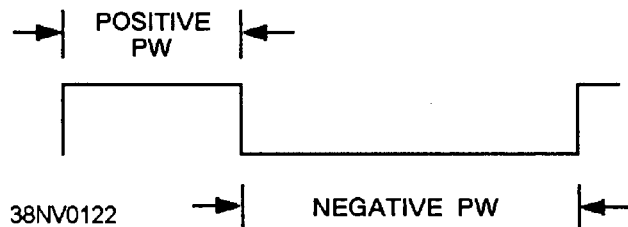

Figure 4-7.—Examples of pulse width (PW) measurements.
- **Pulse width (PW)** —PW is the time interval between specified reference points on the leading edge and trailing edges of the pulse waveform. Pulse widths are usually further defined as a positive PW and a negative PW. Refer to figure 4-7 for an example.